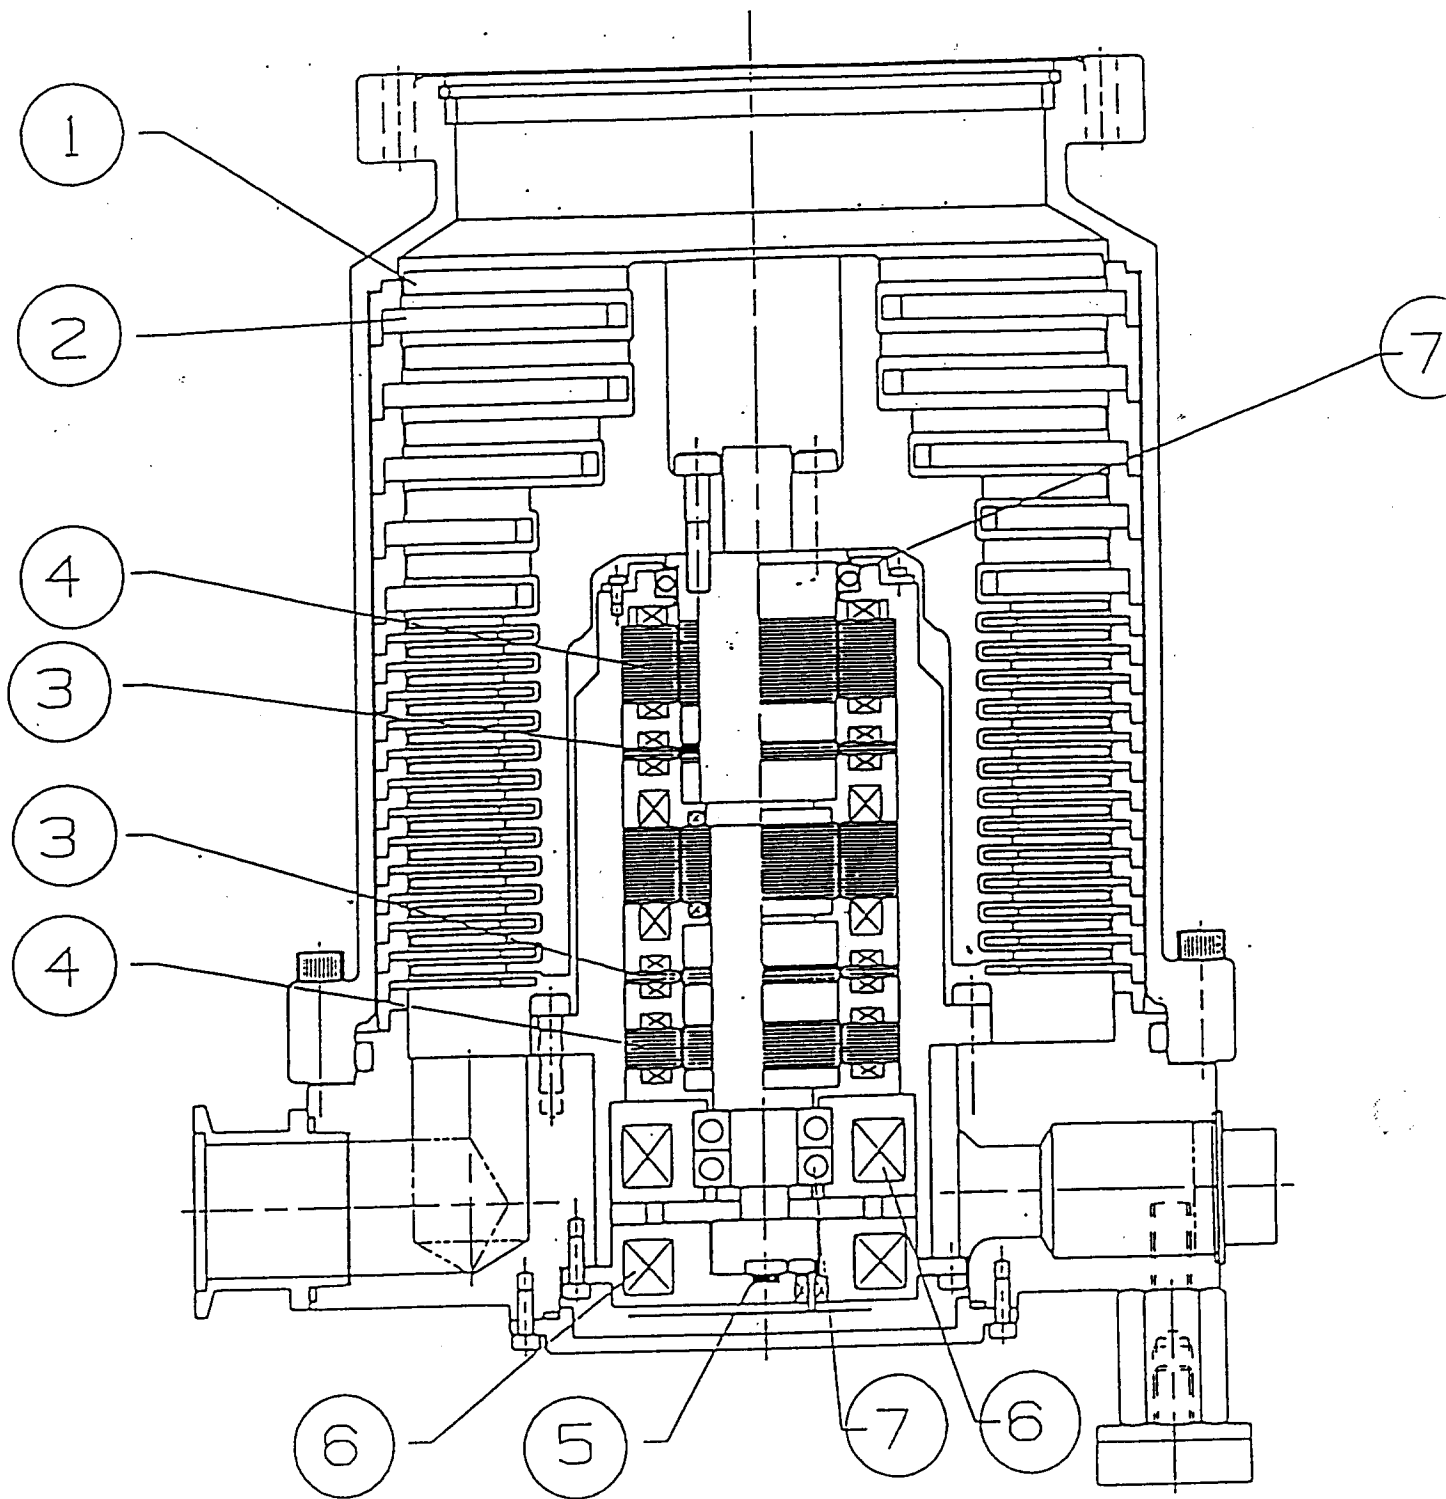

Fig. 20 Cross sectional view of the STP pump
- (1) DO NOT use the external battery with the internal battery being mounted.
- (2) DO NOT use the battery connected in parallel.
- (3) Be sure to replace the batteries with new ones before the service life expires.
- (4) If the batteries are left for over an allowable leaving period, recharge them for over 90 minutes or replace them by new ones.
- (5) The service life, allowable leaving time, operating time, etc. differ depending upon the battery employed and ambient temperatures. So, refer to the technical data or the like published by the battery manufacturer for details.
9. OPERATION PRINCIPLE OF THE STP PUMP (Refer to Fig. 20.)